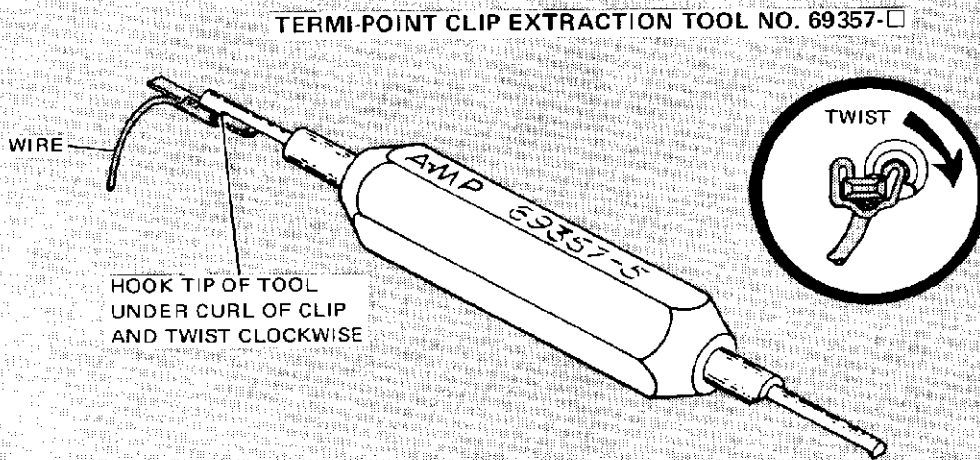

Figure 4
- Twist tool in clockwise direction away from open portion of TERMI-POINT clip until clip is free. See Figure 4.